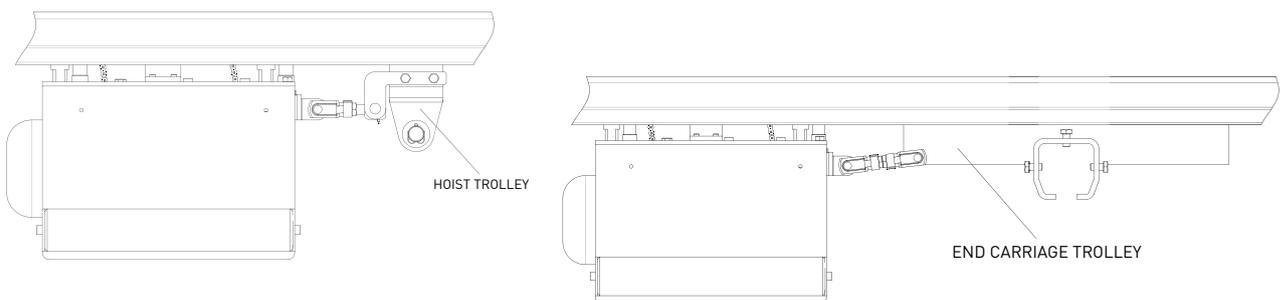

Figure 5.
STEP 7: At this step, connection between hoist trolley and end carriage is done. Then the track end stops must be re-installed. See Figure 5.